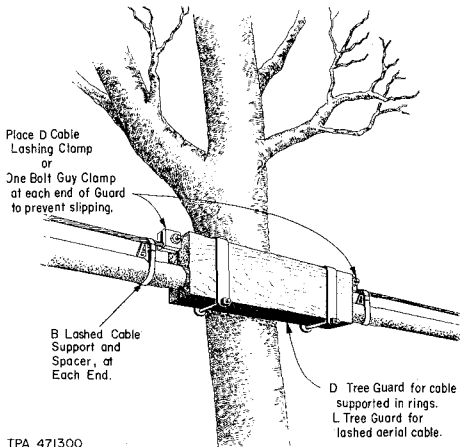

Fig. 3—D Tree Guard Installed to Protect Cable in Rings
- (c) Use a D Tree Guard, as shown in Fig. 3, where the C Tree Guard would not be satisfactory for protecting ring supported cable from contact with the tree or limb.